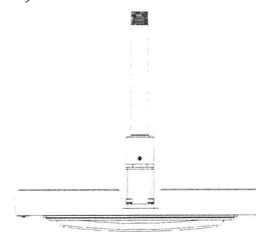

Figure 4
- ☞ Tighten tube locking setscrew to conduit, 1.0 N-m. (Figure 4)